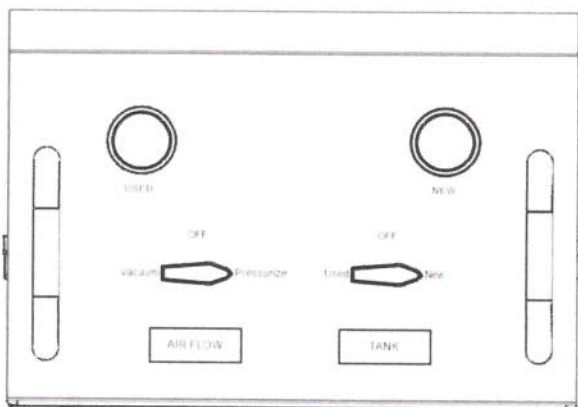

Fig.11
2. Turn left panel valve "AIR FLOW" to "Pressurize" position, right panel valve to "NEW" position (Fig.11). Open both valves in return hose and filling hose. Then open shop air valve, to start coolant exchange process (During the process you can turn left panel valve "AIR FLOW" to "Vacuum", and right panel valve "TANK" to "Used" to remove air bubble in coolant system.);